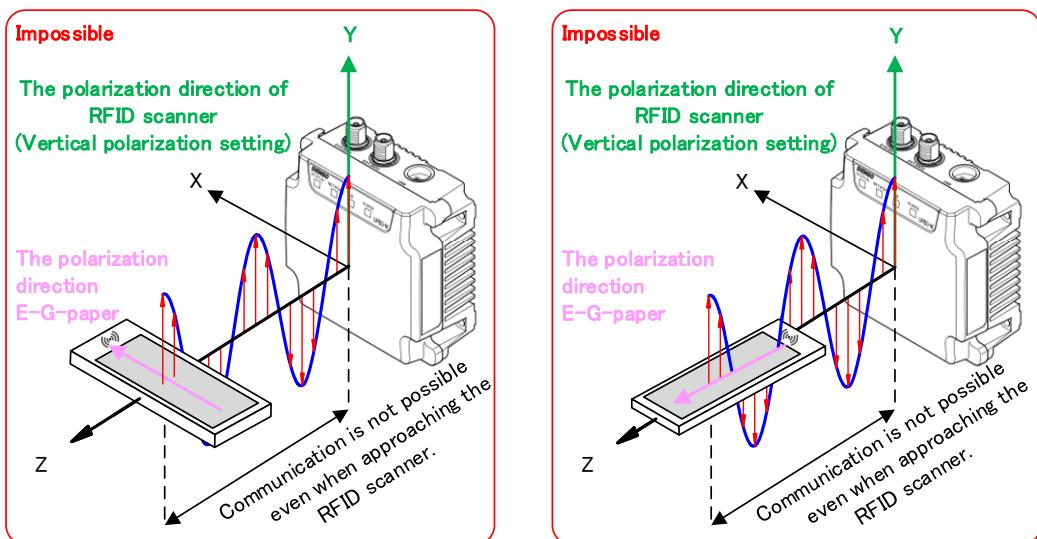

Figure 7.3 An Example of Unable Communication Arrangement
- If the tag is tilted 90° , it will not be able to communicate with RFID scanner even it is placed close to the RFID scanner. Referring Figure 7.3.